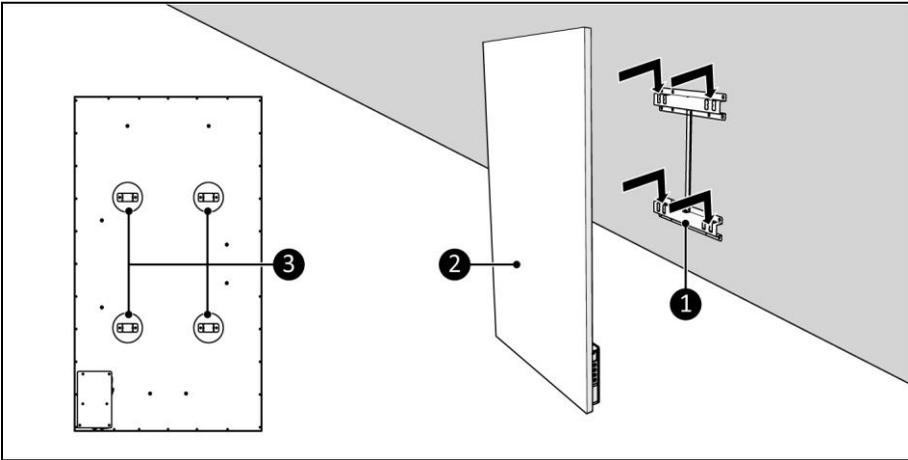

Figure 9
5. Place the device brackets (Figure 9, pos. 3) over the wall bracket (Figure 9, pos. 1).
6. Slide the device (Figure 9, pos. 2) into the openings of the wall bracket (Figure 9, pos. 1).